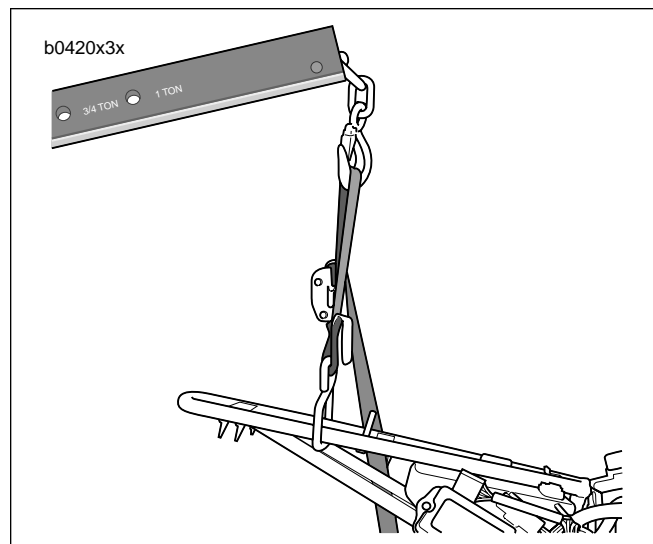

Figure 10. Floor Hoist (Typical)
- See Figure 10. Strap tail section of frame to overhead beam or hoist and raise until rear wheel is off the lift.